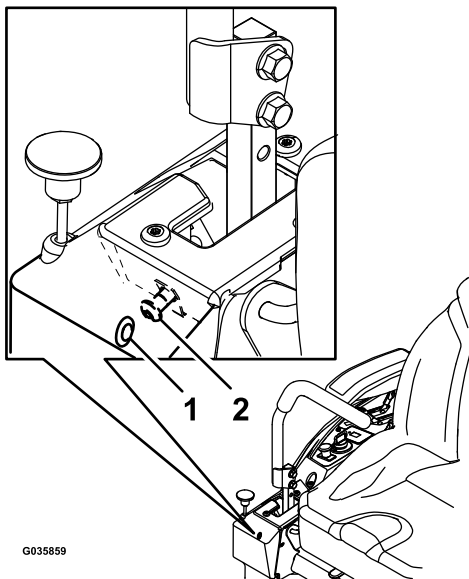

**Figure 86**
**Note:** The upper hoop of the roll bar may need to be pushed forward or pulled rearward to fully engage both knobs (Figure 85 and Figure 86).